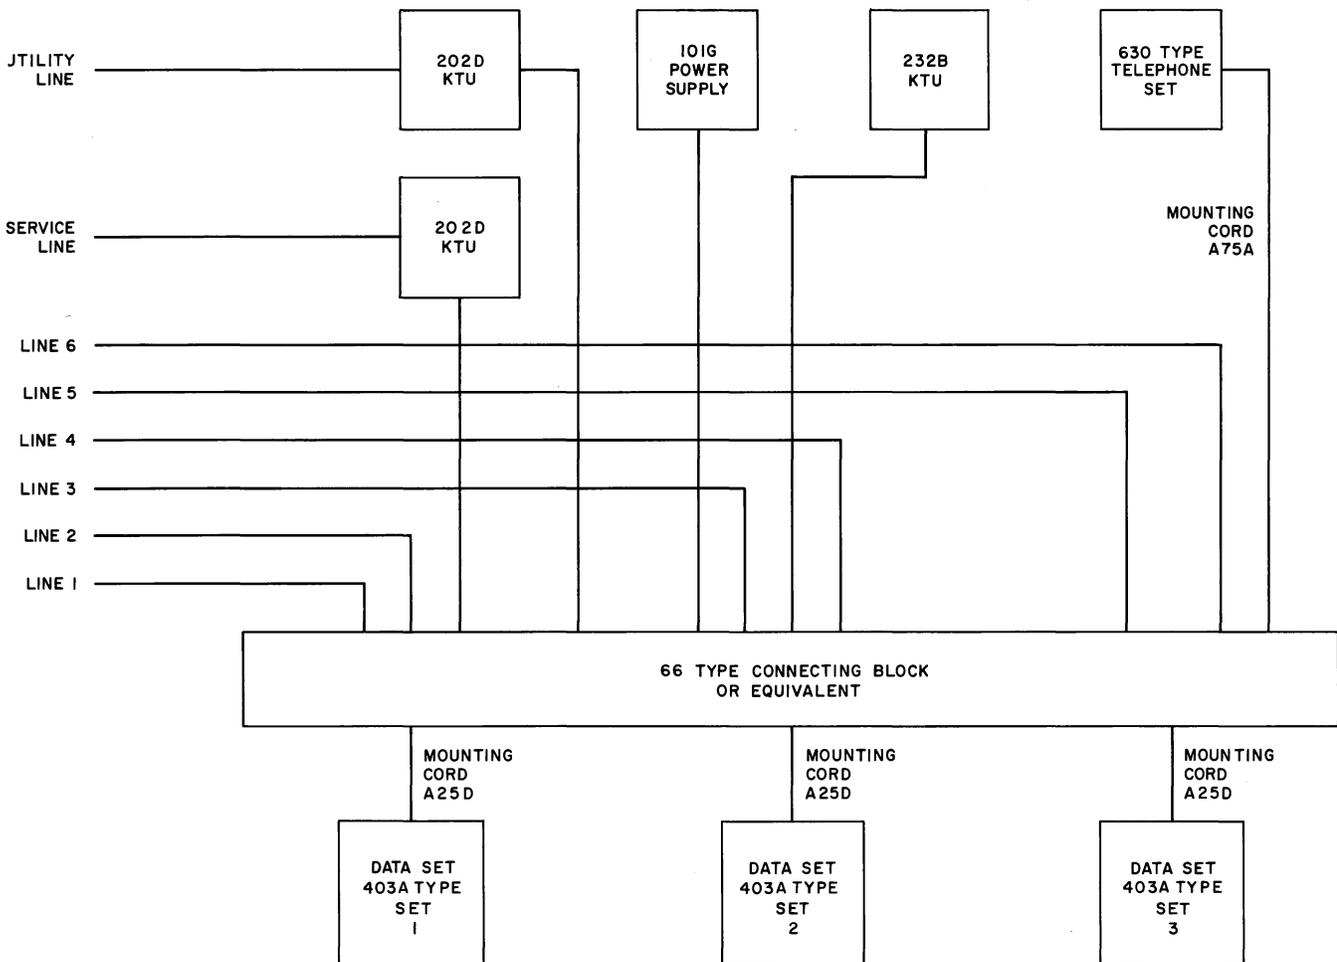

Fig. 4 — Block Diagram of a Data Installation Using a Single 18-Button 630-Type Telephone Set For Intercept and Maintenance For 6 Data Lines
3.10 Fig. 4 illustrates a data station using three data sets (6 receivers) in conjunction with one 630-type telephone set for intercept and maintenance of six data lines. Table D illustrates the type of connections necessary for this type of installation.